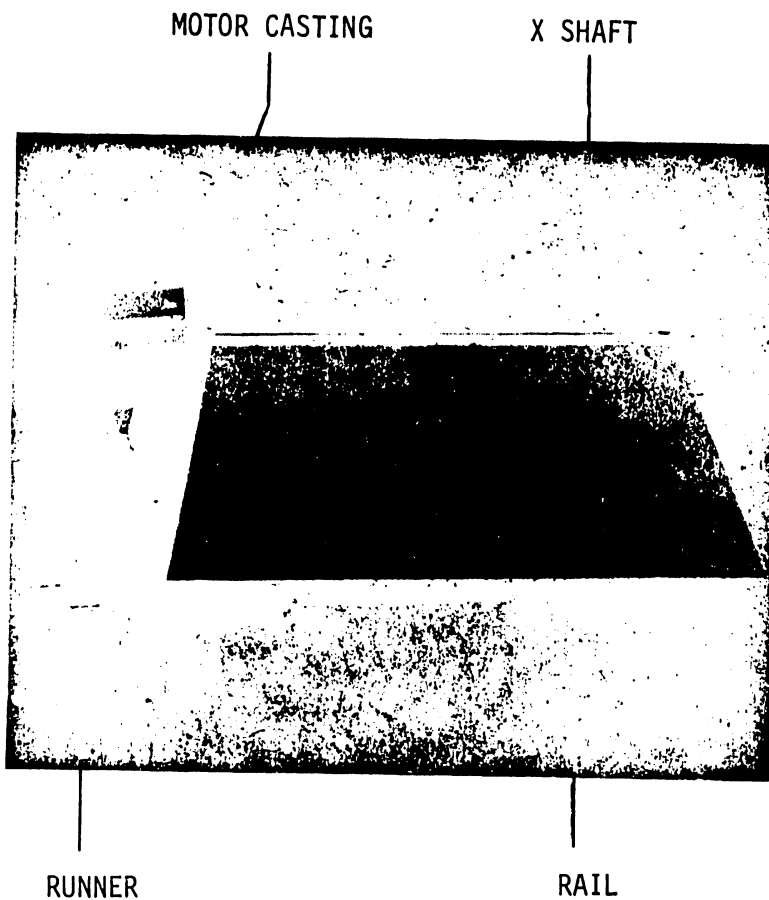

FIGURE 31
- (c) Slowly move the arm to the left end (home position) and ease it off the X shaft and rail. See Figure 31.